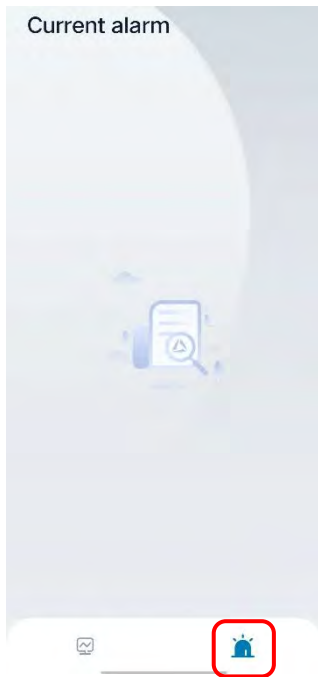

Figure5-11 Alarm info page
- Tap the bottom icon  , you can view the current alarm info of dehumidifier, as shown in Figure5-11.